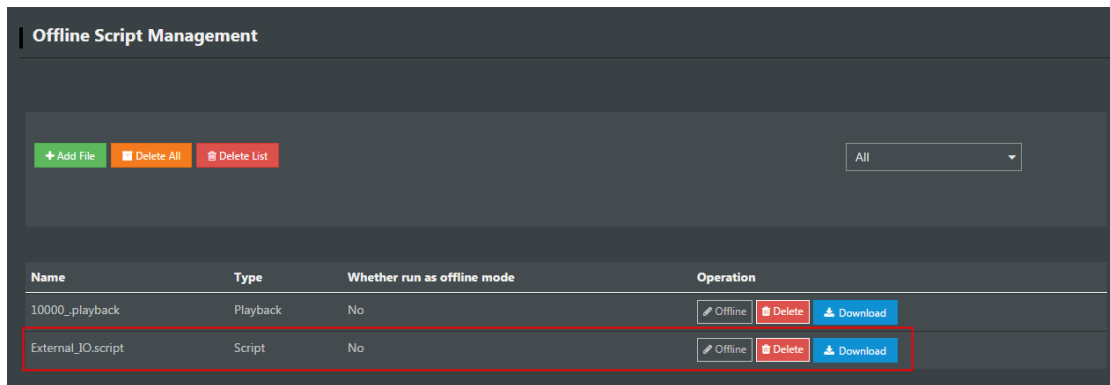

Figure 6.61 Script status
3. Select the uploaded script on the **Offline Script Management** page and click **Offline** to make the script in the offline status, as shown in Figure 6.61.